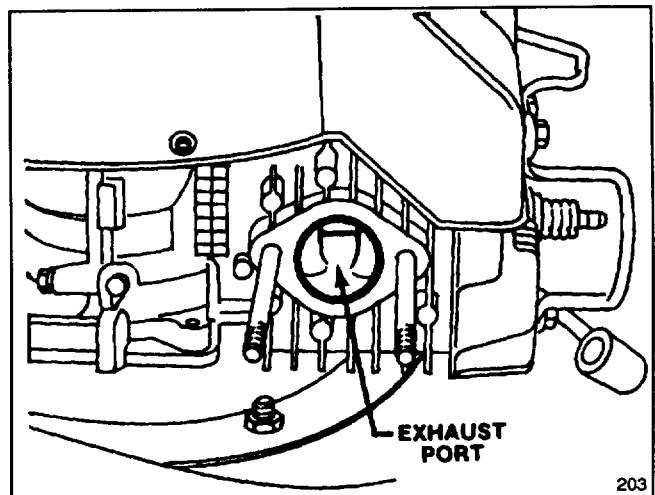

Figure 13
3. Pull wire off spark plug. Slowly pull recoil starter so piston covers exhaust port (Fig. 13).
4. Clean carbon from exhaust port (Fig. 13) with flat, hard wood scraper.